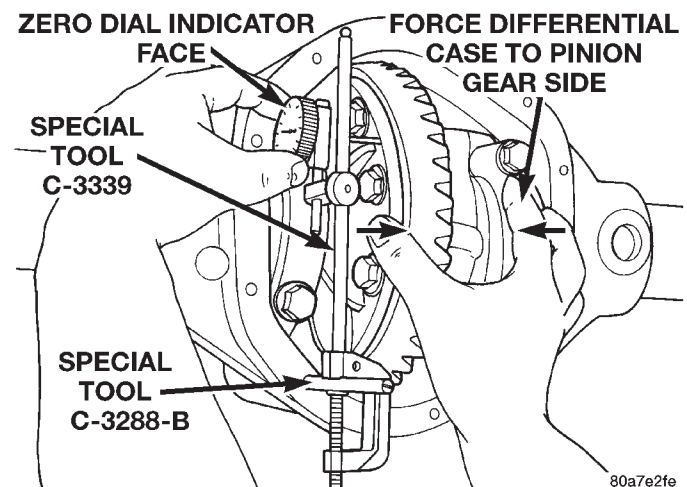

Fig. 55 Hold Differential Case and Zero Dial Indicator
(10) Push and hold differential case to pinion gear side of axle housing (Fig. 55).
(11) Zero dial indicator face to pointer (Fig. 55).